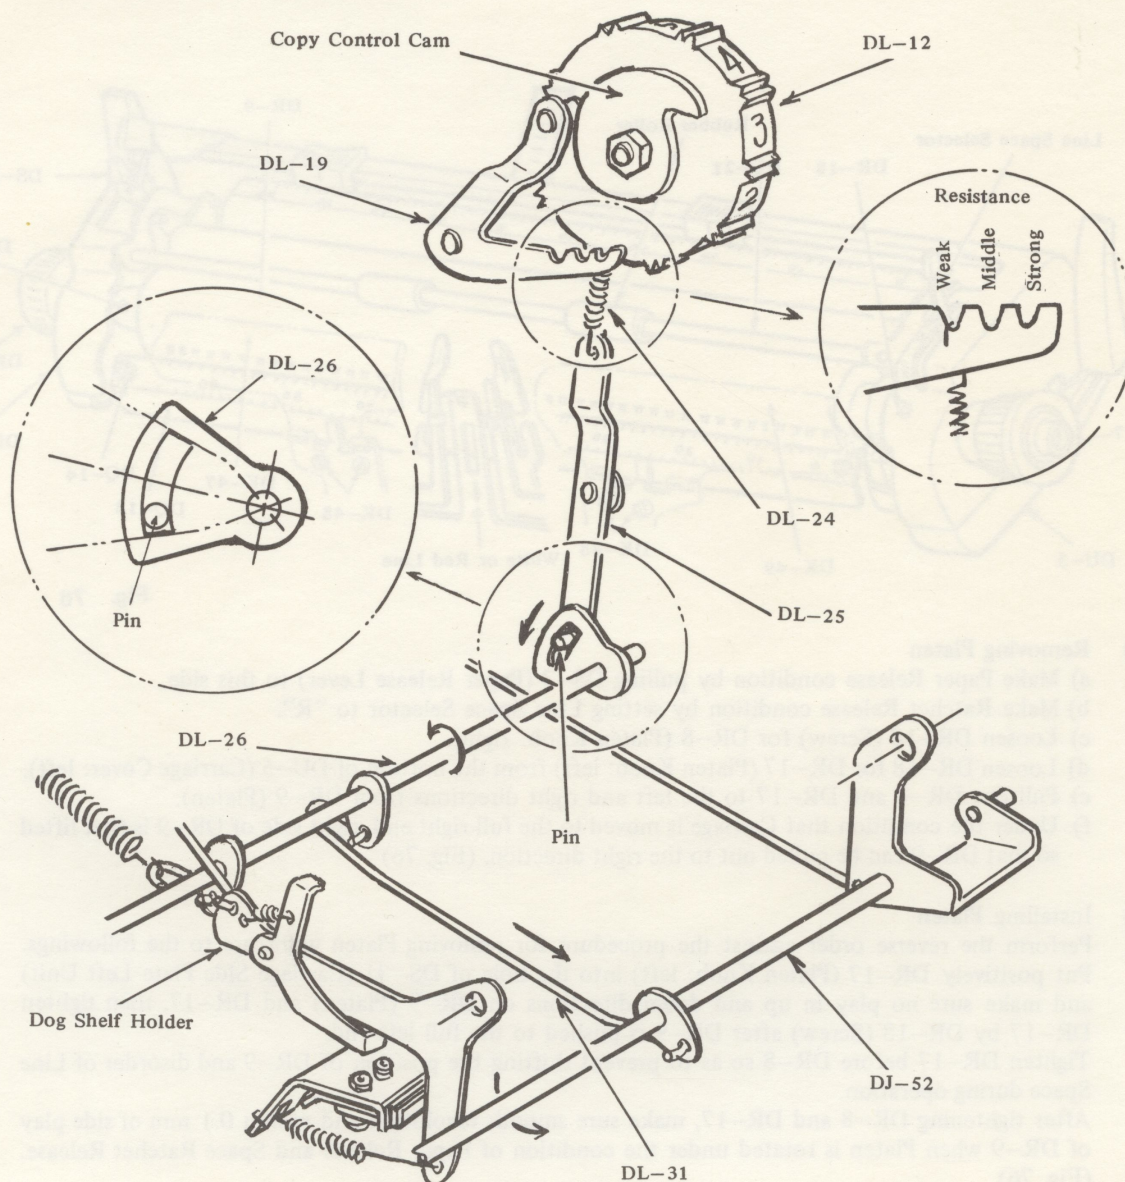

Fig. 75
When DL-12 (Copy Control Dial) is rotated, DL-24 will be extended by the media of Copy Control Cam and DL-19 (Copy Control Operating Crank Unit), then resistance against Dog Shelf Holder will be changed. (Fig. 75)
- (1) Adjust DL-31 (Copy Control Wire: A) so that the position of the Pin of DL-25 (Copy Control Spring Hook) against the groove of DL-26 (Copy Control Driving Rod) is located on lower than the center. (Fig. 75)
- (2) Change the position for hooking DL-24 (Copy Control Spring) into the groove of DL-19 (Copy Control Operating Crank Unit). (Fig. 75)